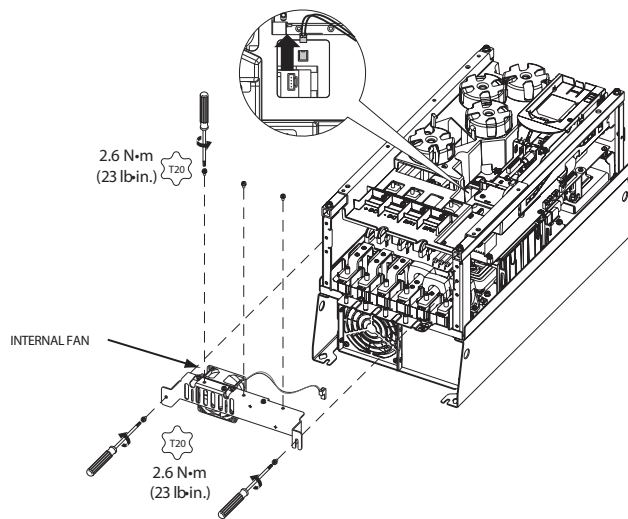

Fig. 24 — Internal Fan, Frame 6
5. Remove and replace the internal fan. See Fig. 24.